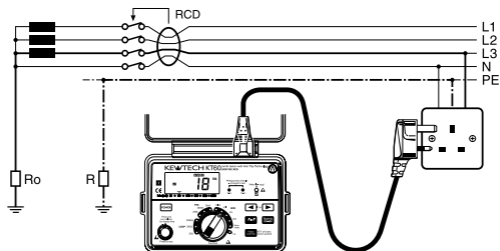

Fig 9
- (2) Connect test lead to object to be tested. (Fig.9,10)
- (3) After the connection, ensure that the LEDs are in the following status before pressing the test button.
In fig.9, when grounding is incomplete and R exists, voltage occurs to R if fault current flows in R. A person may touch this voltage, and the voltage at this point is called U_c . With U_c test, the value, when U_c reaches maximum, is calculated.
- (2) Connect test lead to object to be tested.(Fig.9,10)